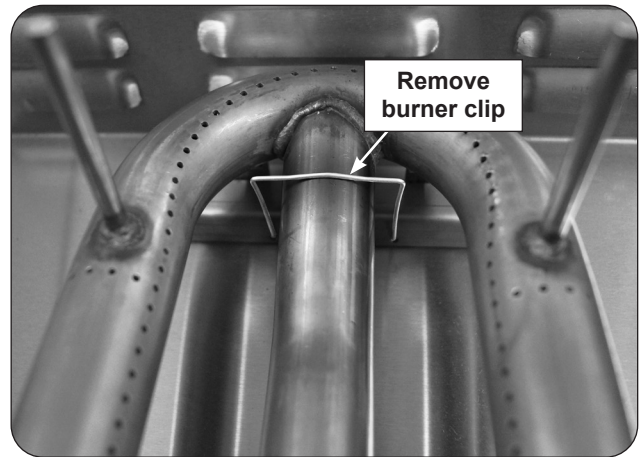

Fig. 36-1 Main burner removal
2. Locate the burner clip (located over the rear center tube of the burner) and slightly pinch and remove the clip from the burner support. See Fig. 36-1.